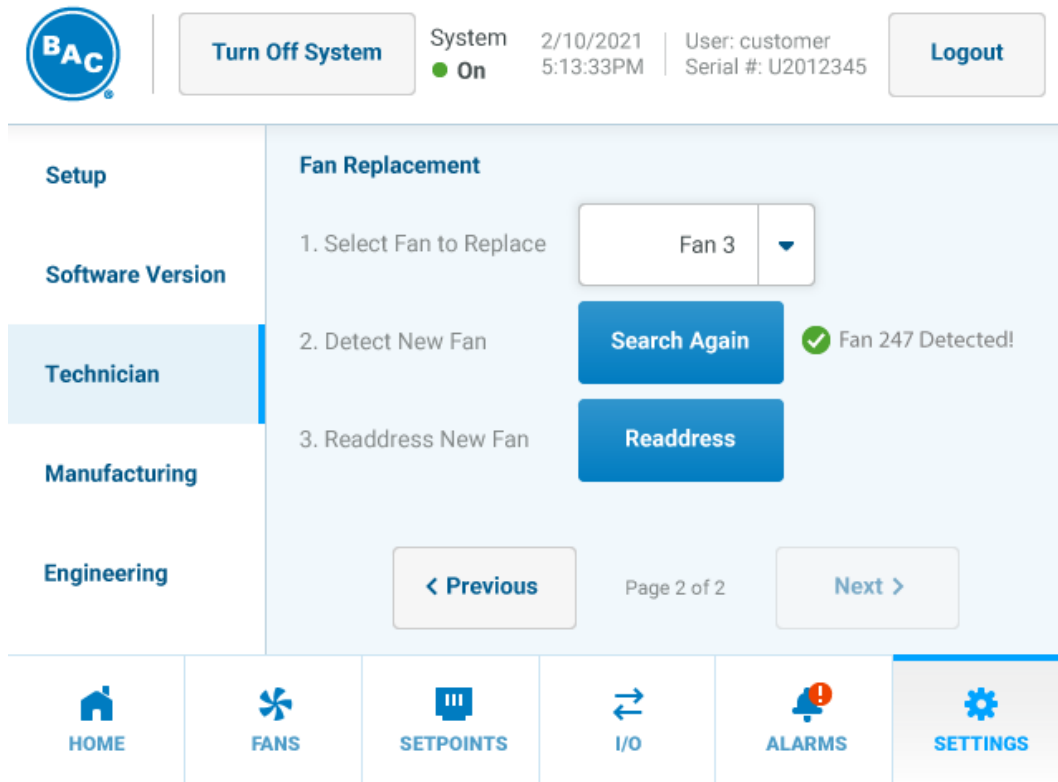

Figure 82. Settings Menu, Technician Page 2 of 2 Fan Detect
5. When the new fan has been detected, a green checkmark icon will appear as shown in **Figure 82**. Press the “Readdress” button. Next press the “Readdress Fan” button to confirm readdress. The selected fan will be readdressed.